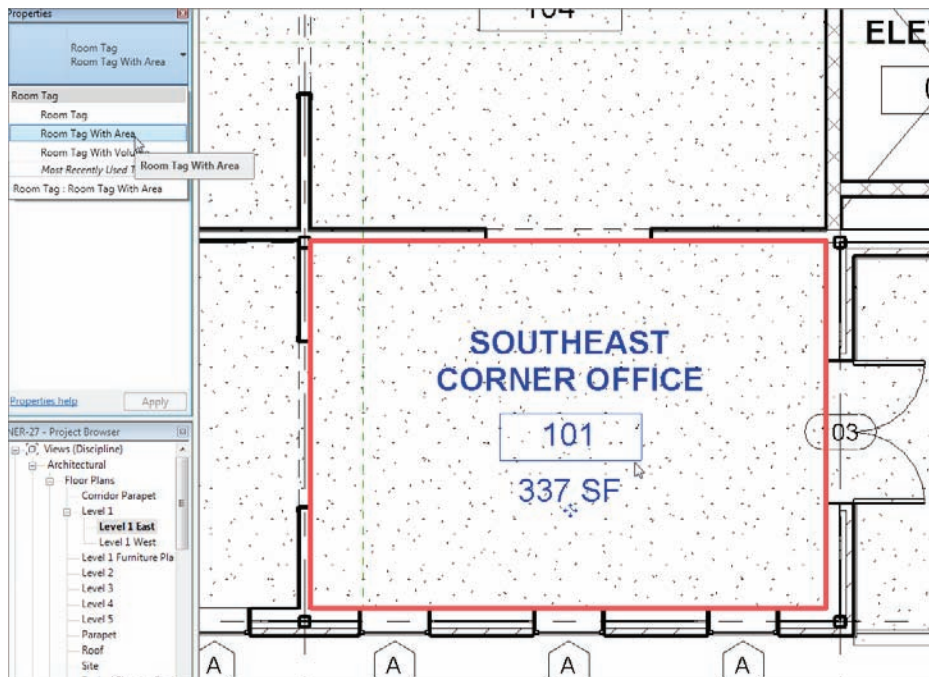

FIGURE 15.12 Change the type to Room Tag With Area.
3. In the Type Selector, select Room Tag With Area, as shown in Figure 15.12.